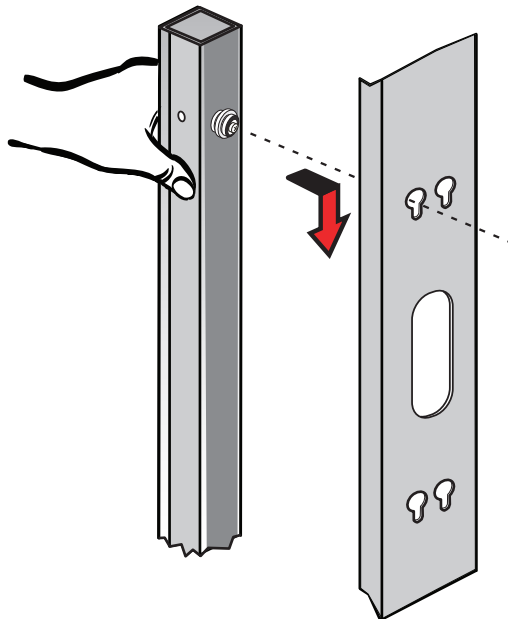

Figure 17. Securing the ePDU
5. Push down to secure the ePDU in position (see Figure 17).